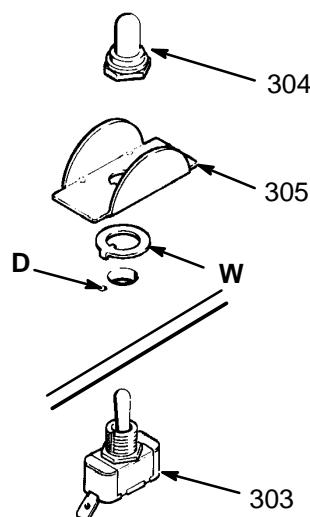

Fig 24-2
See Fig 24-2 except where noted.
4. Use a 5/8 in. socket wrench to loosen and remove the nut and rubber boot (304) from the top of the pressure control box. Remove the switch guard (305). See Fig 24-2.
6. Install the new switch so the internal tab of the anti-rotation ring (W) engages with the vertical groove in the threads of the switch, and the external tab engages with the blind hole (D) of the pressure control box.
7. Install the switch guard (305), aligning the internal tab with the groove in the threads.
8. Powder the inside of the rubber boot (304) with talcum, then shake excess out of boot.
10. Reconnect the wires to the ON/OFF switch (303) and reconnect the wire to the microswitch (302).